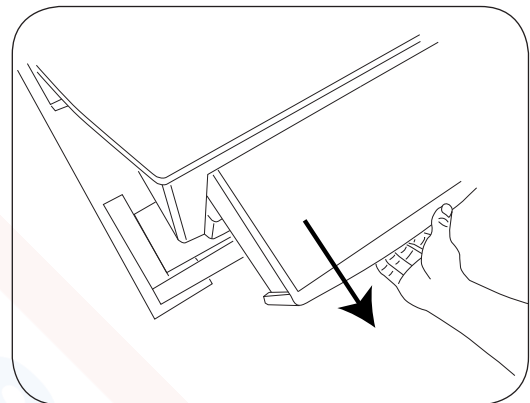

Figure 14. Pull Top Rear Pass-through Drawer Open
14. Prepare the rear of table for lifting by pulling top rear pass-through drawer to one side (Figure 14).